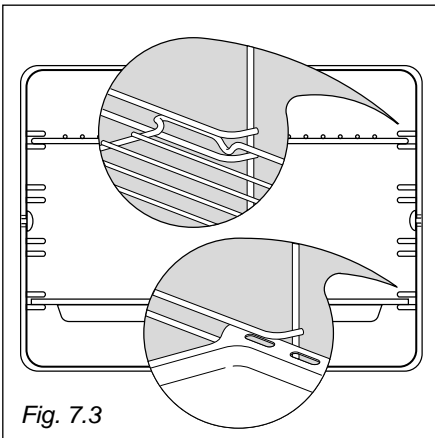

Fig. 7.3
- Slide in, on the guides, the shelf and the tray etc. (Figure 7.3).